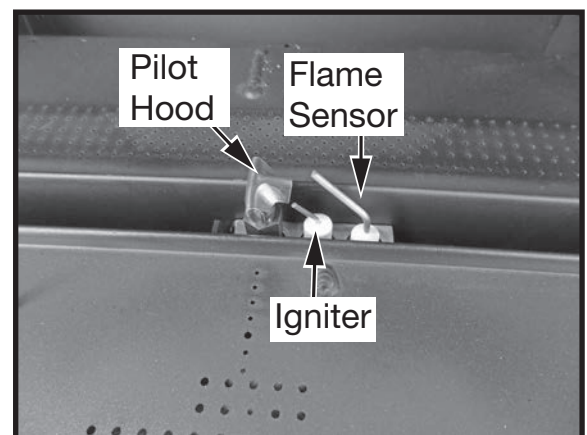

Figure 105: Pilot assembly.
- b) Check the pilot system for proper flame size and operation. Clean pilot free (Figure 105) of soot, dust or any other deposits.